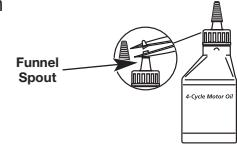

Fig. 15
Your unit is supplied with one 3.04 fluid oz. (90 ml.) bottle of SAE 30 SF, SG, SH oil (Fig. 15).
- Unscrew the top of the bottle of oil and remove the paper seal covering the opening. Replace the top. Next, cut the tip off the funnel spout (Fig. 15).